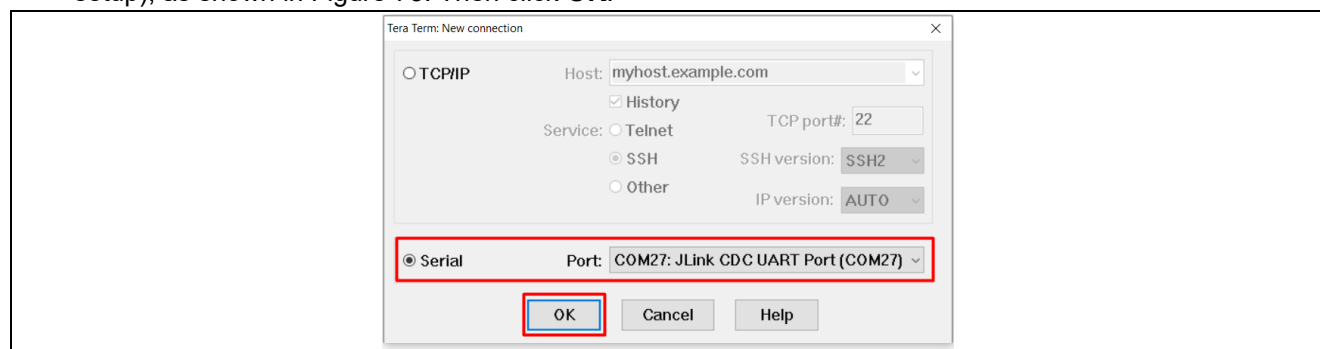
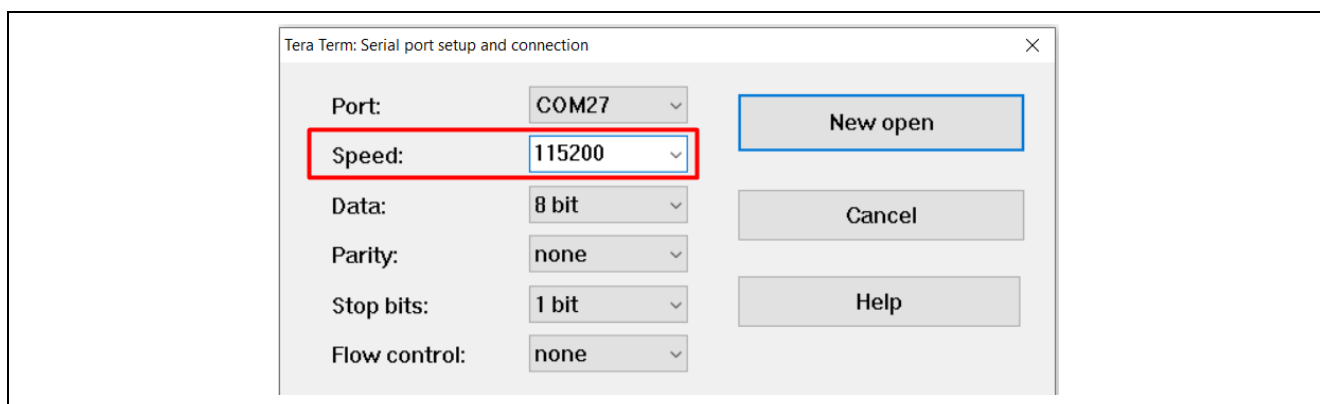

Figure 75. Open the UART COM Port
Figure 76. Configure the Baud Rate if using UART Interface
Note that when using the UART interface, users need to open the Tera Term and configure the Baud Rate first, as shown in Figure 75 and Figure 76. Then, the debug session can be started from the UART primary application.
- If using the UART interface, choose the JLink CDC UART Port (COM number may be different for your setup), as shown in Figure 75. Then click **OK**.